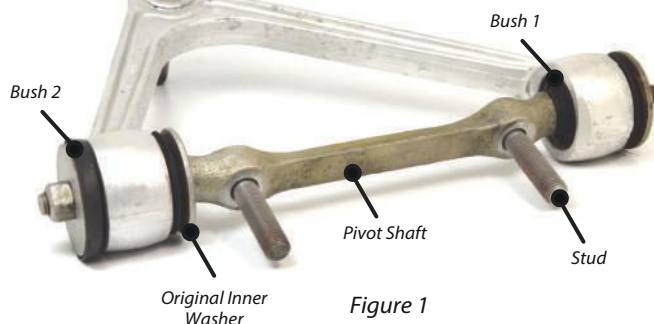

Figure 1
2. Remove the original rubber bush (Bush 1) that is the furthest away from the inner washer, as shown in Figure 1.